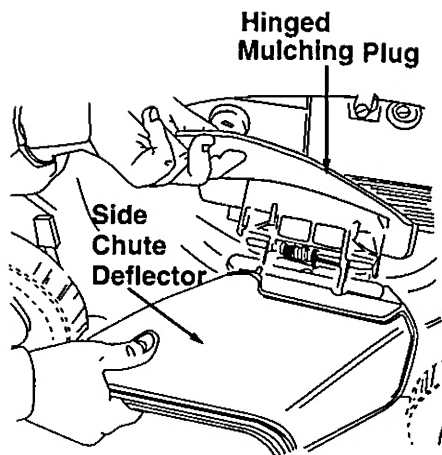

Figure 6.
9. To convert your mower from a mulcher to a side discharge mower, lift the hinged mulching plug. Slide the two hooks on the side discharge deflector under the hinge pin on the mulching plug assembly. Lower the mulching plug. See figure 6